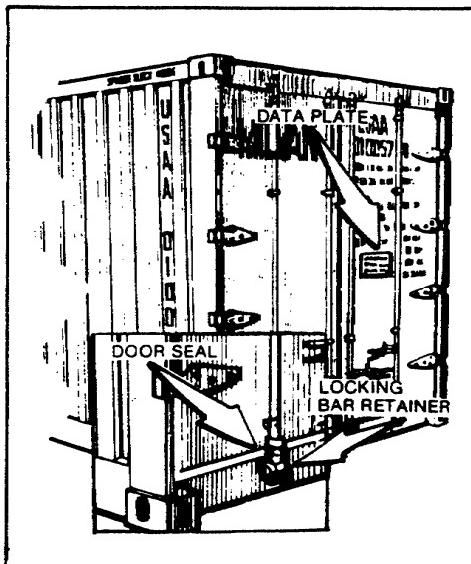

Figure 2-8. Where To Inspect for Door Seals, Locking Bar Retainers, and Data Plate.
1.3. Door seals must be intact to insure that the load is properly protected (figure 2-8).